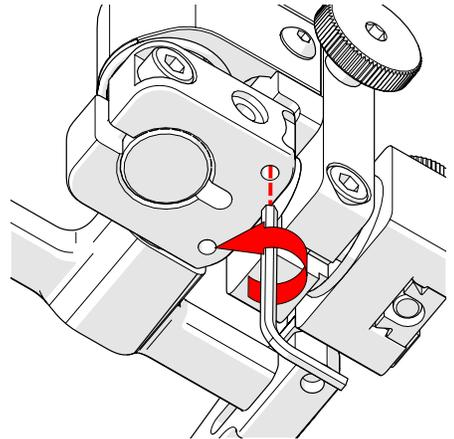

Fig. 64 - Lower 90° stop post
7. Locate the recessed M3 screw on the bottom of the probe holder. Unscrew the stop post using a 1.5 mm hex wrench until it has cleared all obstructions. Do not remove the stop post (Fig. 64).